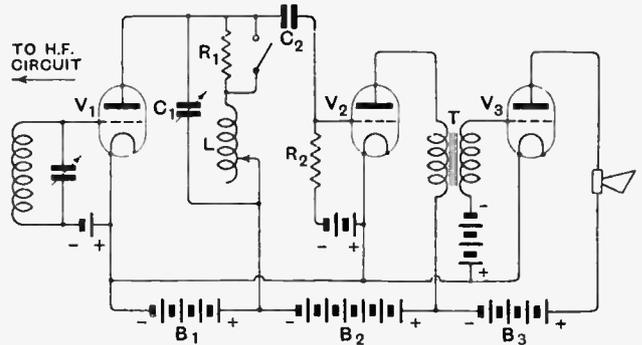

Fig. 4.—Experimental amplifier with variable characteristics. For details see Tables I and II.
In order that the reader may experiment for himself, a modified arrangement of the speech amplifier illustrated on page 44 of the January 13th issue will be described. Fig. 4 shows such an amplifier, and it is to be assumed that any high-frequency amplification preceding the detector is devoid of reaction, within the practical meaning of the term. Table I shows some of the possible combinations, whilst Table II indicates the approximate amplification. The cut-off point is taken as the lower frequency at which the amplification has fallen to 95 per cent. of that on the horizontal portion of the curve. It will be realised that for the best quality there must be some sacrifice in magnification. By using appropriate valves and inverting the positions of the transformers in a double note magnifier, so that the high ratio is used as a choke with the detector, and the low ratio is used for the note magnifier, the quality can be enhanced appreciably with little change in overall intensity from the loud-speaker. From Table II it will be seen that case (1) is the best for all-round work. Not only is the amplification greater than that with the double note magnifier, but the cut-off—which is less acute—occurs 100 cycles lower down. Comparing (2) and (5) in Table II, the amplification of (5) is double that of (2). But the lower tones in (5) are not magnified appreciably, since cut off occurs at 400 cycles.
One important experiment bearing upon the relative merits of the curves of Fig. 2 can be conducted as follows: using a high-impedance valve, V₁, couple V₁ to V₂ (Fig. 4) by a grid leak of the order of 0.1 to 0.2 megohm, and by a switching arrangement substitute a choke of 10 to 20 henries in place of the resistance. The lower tones will immediately vanish, but will reappear when the resistance coupling is reinserted. This experiment is best conducted on an orchestral item (not jazz), with a full lower register. After the experimenter knows what to look for, he will obtain the same effect with various items. In fact, it is interesting to discover exactly what instru-